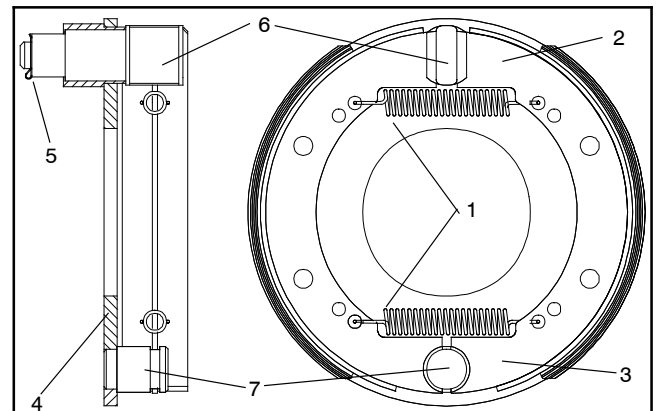

Figure 13
9. Disassemble brake assembly as follows (Fig. 13):
2. Assemble brake assembly as follows (Fig. 13):